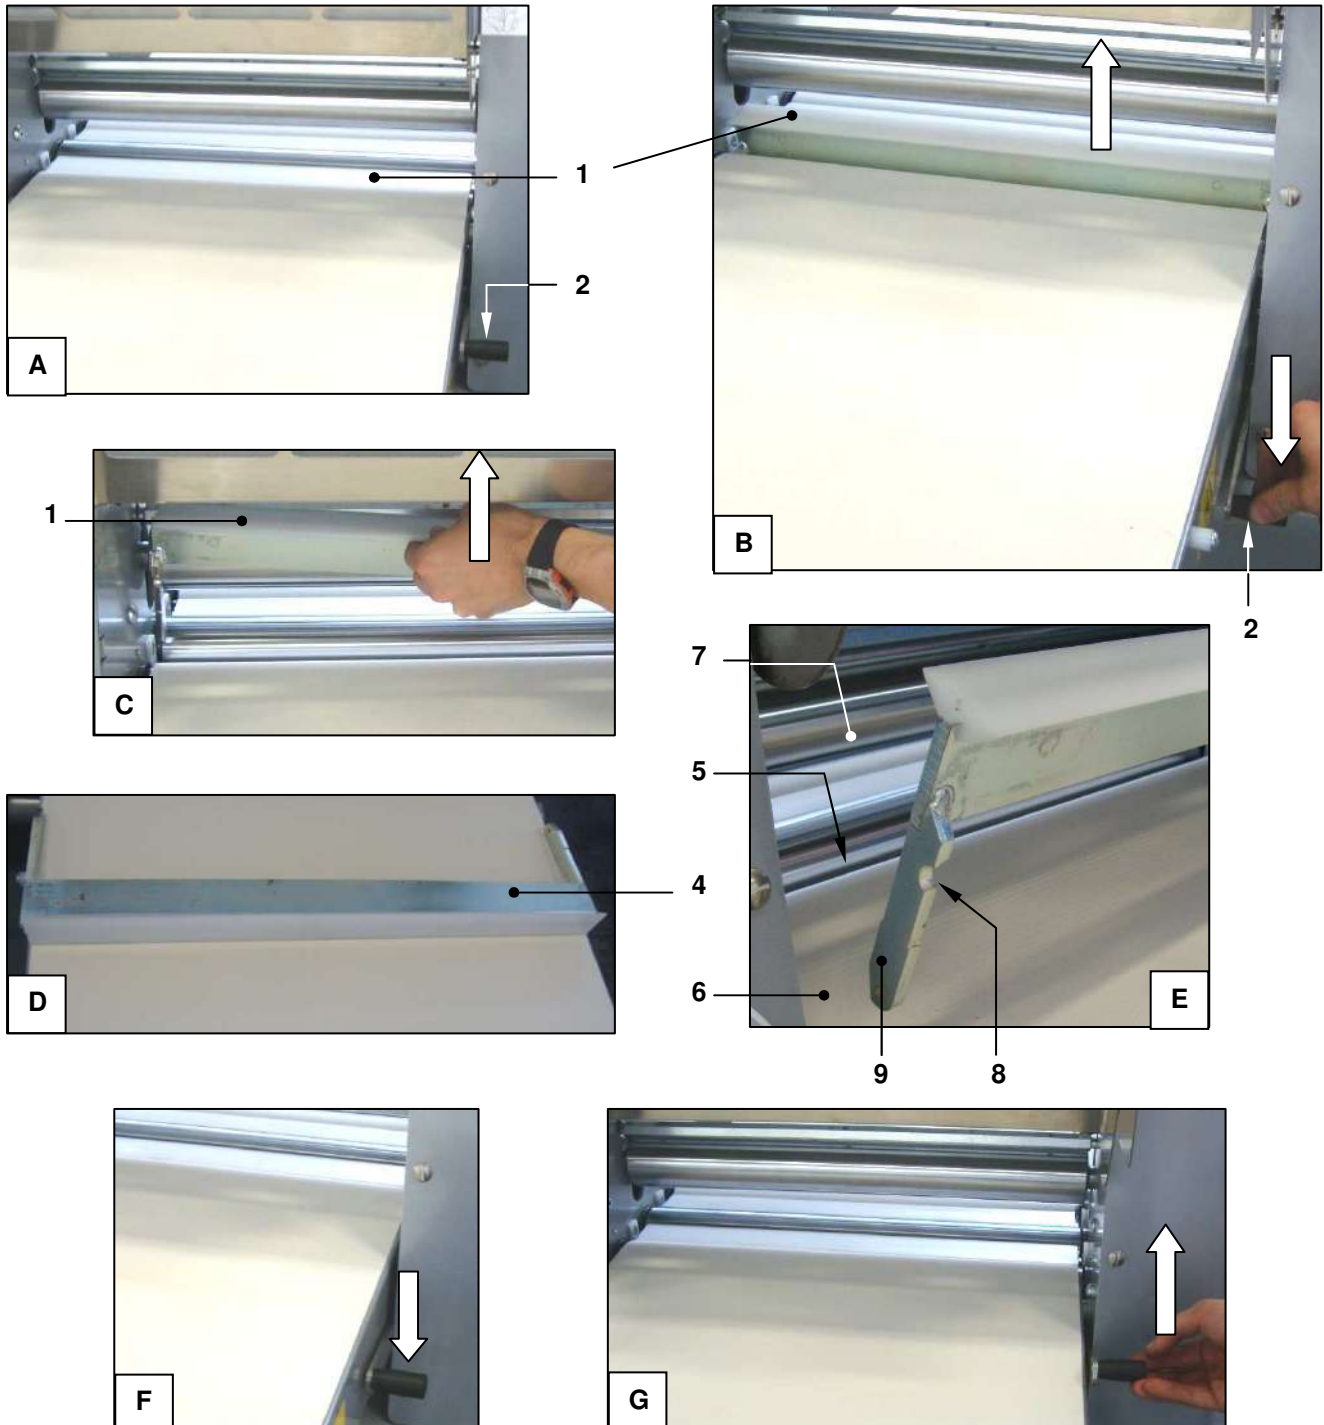

Figure 35 - Mod. SF500: removing/installing the lower roller scrapers
With reference to Figure 35, **to remove a scraper** ref. 1, lower the lever ref. 2 completely (photos A - B). The scraper will move away from the belt and the thickening roller and can then be removed by pulling it upwards (photo C - D).